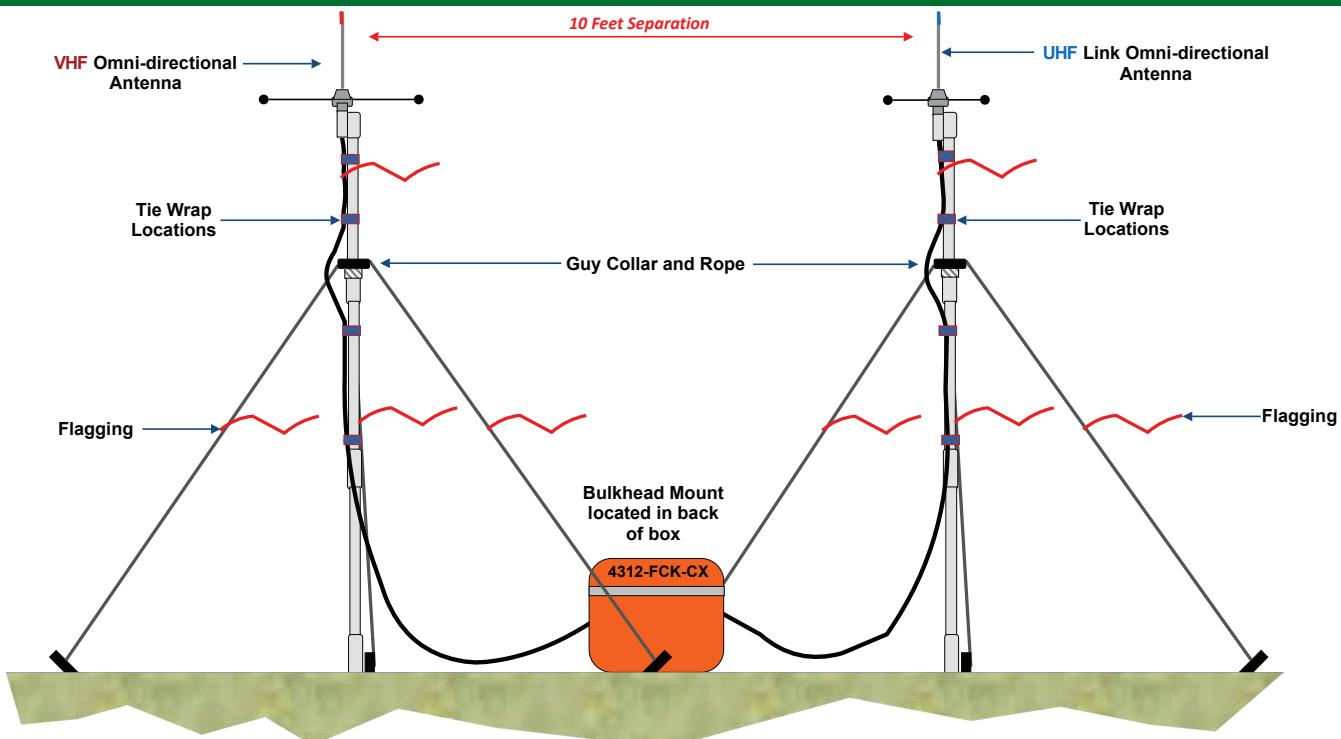

Figure 1: 4312 - VHF Repeater/Link Antenna Setup
2. Voltage Selection: (See Figure 1)
3. Microphone Connection: (See Figure 1)